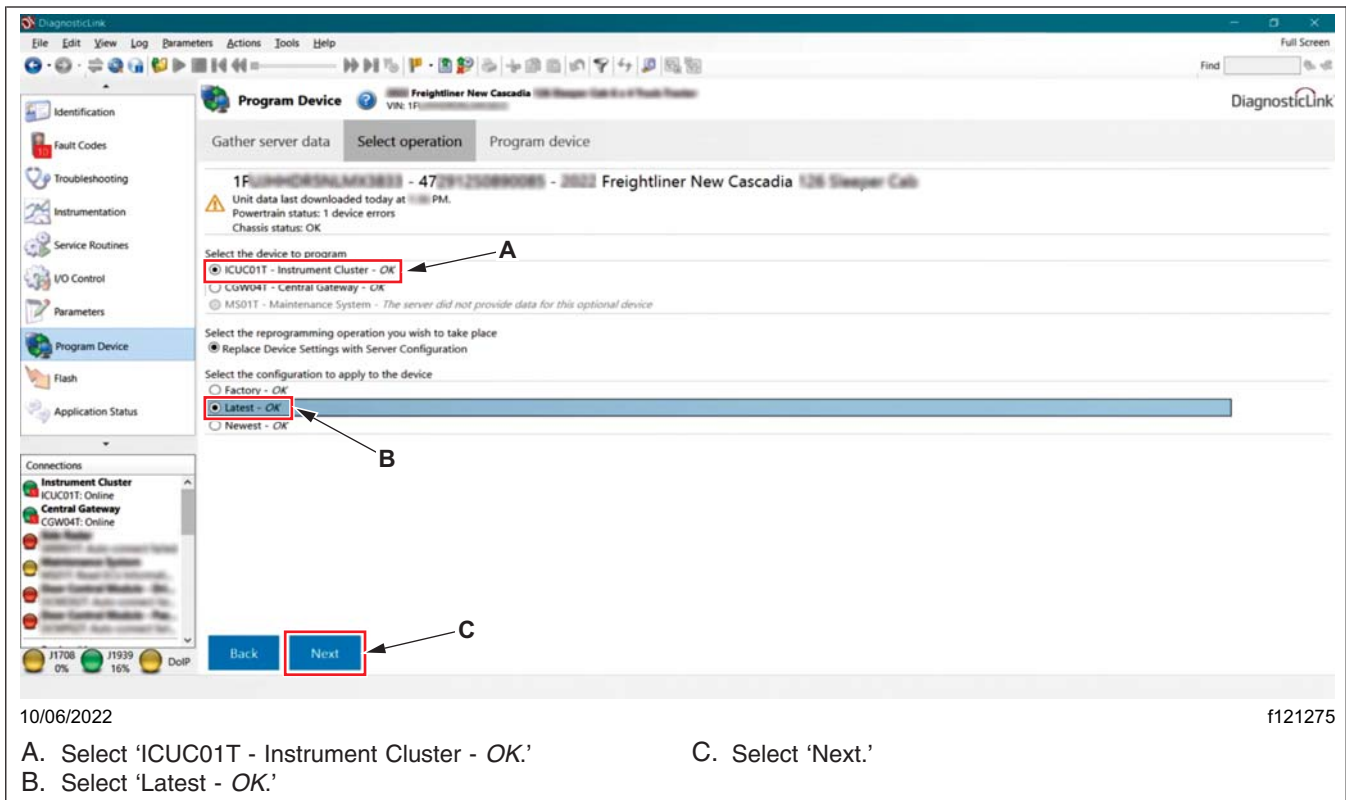

Fig. 21, Selecting the Device Configuration
- 13.1 Select 'ICUC01T - Instrument Cluster - OK' as the device to program. See Fig. 21.
- 13.2 Select 'Latest - OK' as the configuration to apply to the device. See Fig. 21.
- 13.3 Select 'Next.' See Fig. 21.